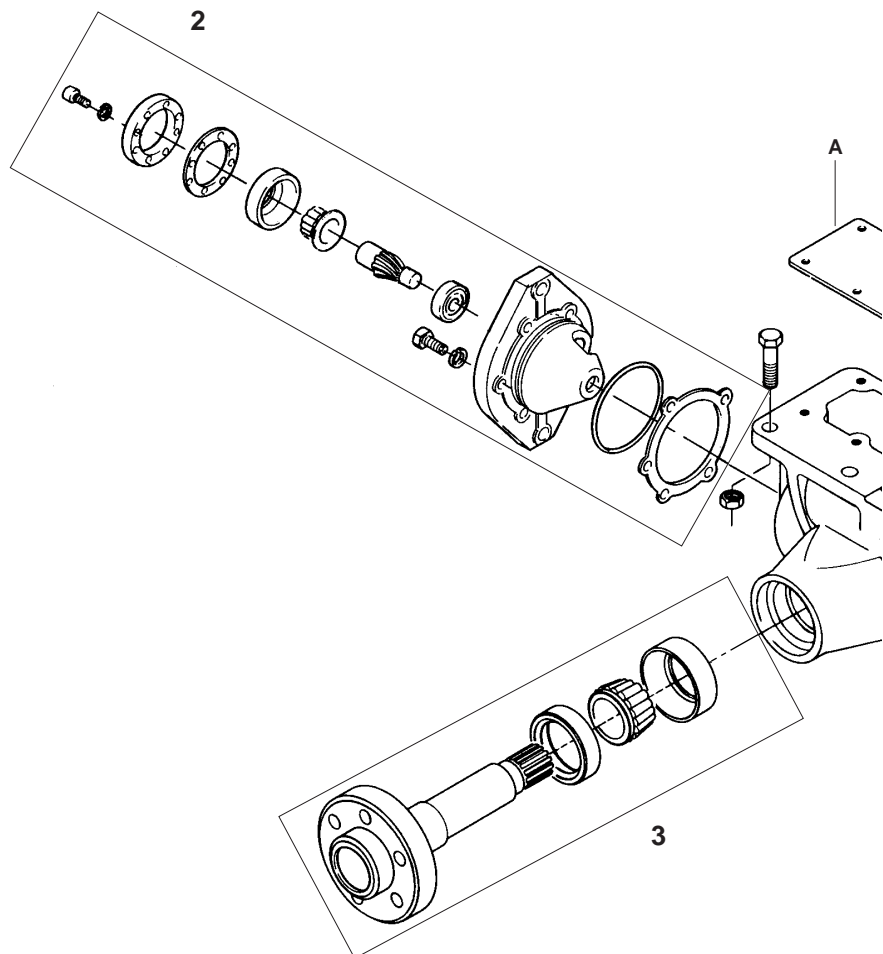

Figure 1A. Drive Unit Sub-Assemblies
Refer to Figures 1A and 1B.
5. Remove the inspection (A) cover from top of unit. (Figure 1A.)